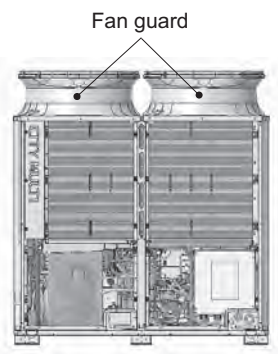

Figure 6
- (8) Remove the fan guard by unscrewing the 12 screws. (See Figure 6.)